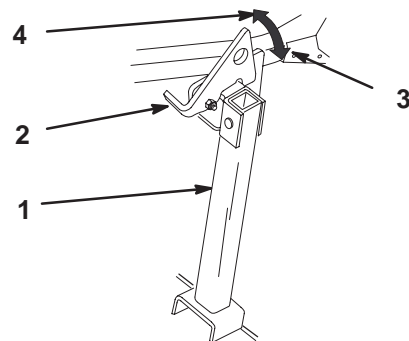

Figure 32
2. Raise the latch to the unlocked position (Fig. 32).